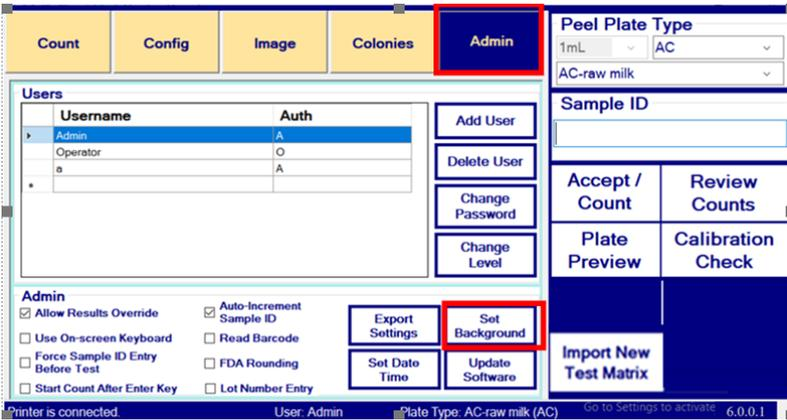

Figure 36
- Verify the new name Peel Plate Type – selected or created appears in Peel Plate Type box (Figure 36), e.g. AC-raw milk. If not, then use drop arrow to select it.
- Press **Set Background** button,(Figure 36), with the blank plate in plate nest.